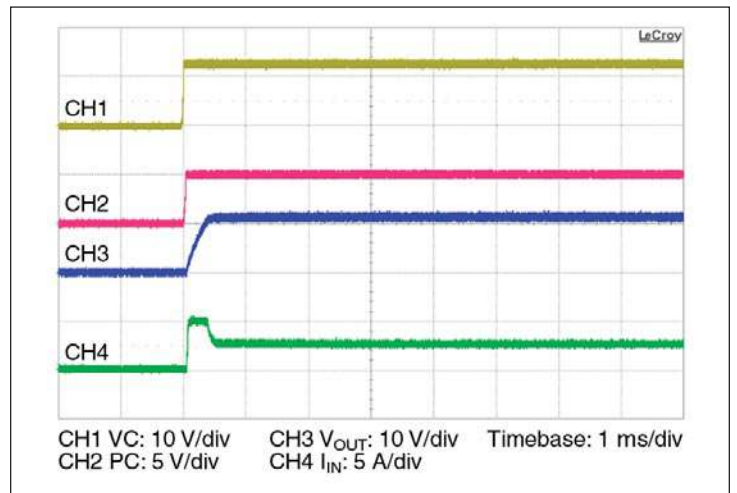

Figure 14 — Start up from application of VC; V_{IN} pre-applied $C_{OUT} = 500 \mu\text{F}$
- **Stand Alone Operation (VC applied after V_{IN}):** In this case the module output will begin to rise upon the application of the VC voltage (See Figure 14). The Adaptive Soft Start circuit (See Section 10) may vary the output rate of rise in order to limit the inrush current to its maximum level. When starting into high capacitance, or a short, the output current will be limited for a maximum of 900 µsec. After this period, the adaptive soft start circuit will time out and the module may shut down. No restart will be attempted until VC is re-applied, or PC is toggled. The maximum output capacitance is limited to 500 µF in this mode of operation to ensure a successful start.